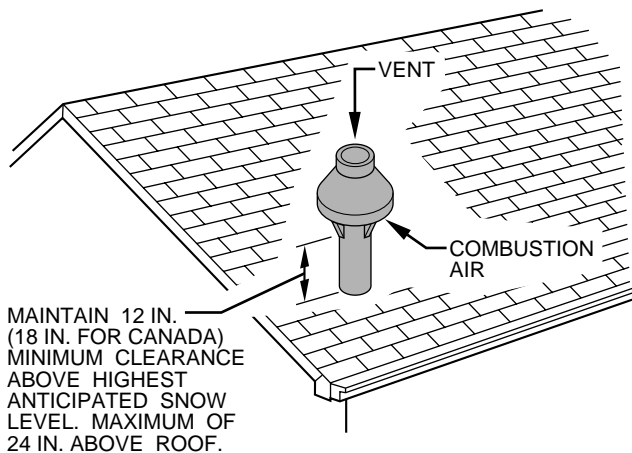

Fig. 38—Concentric Vent and Combustion-Air Roof Termination (Preferred)
Roof terminations—Locate assembly through roof to appropriate height as shown in Fig. 38.
Sidewall terminations—Locate assembly through sidewall with rain shield positioned no more than 1-in. from wall as shown in Fig. 38.
6. Check required dimensions as shown in Fig. 38 or 39.